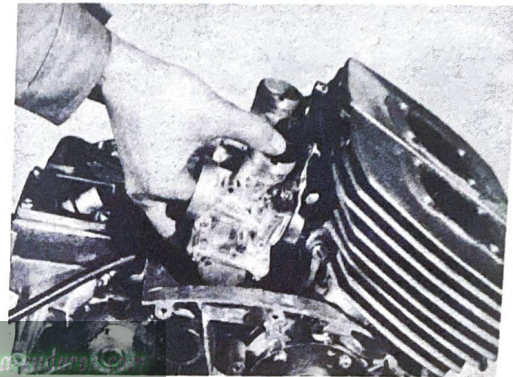

Fig. 4-20-3
- 3) Then remove the carburetors. (Fig. 4-20-3)